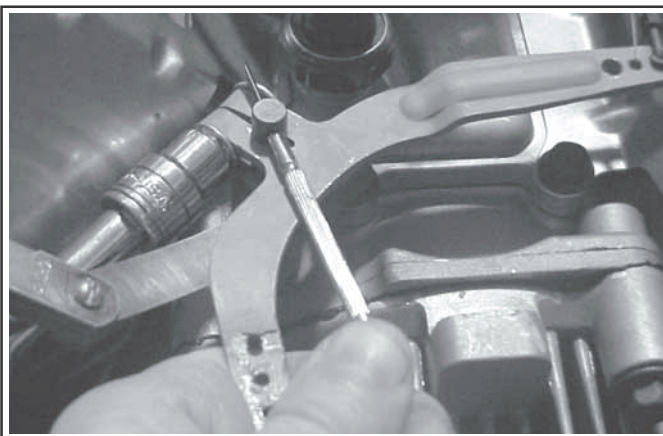

Figure 3.
4. Insert a nail or other small stiff shaft into the hole in the end of the cross shaft and rotate the shaft **COUNTERCLOCKWISE** as far as it will turn. Torque the hex. nut on the clamp screw to **9.9 N·m (88 in. lb.)**. See Figure 3. Remove the feeler gauge.